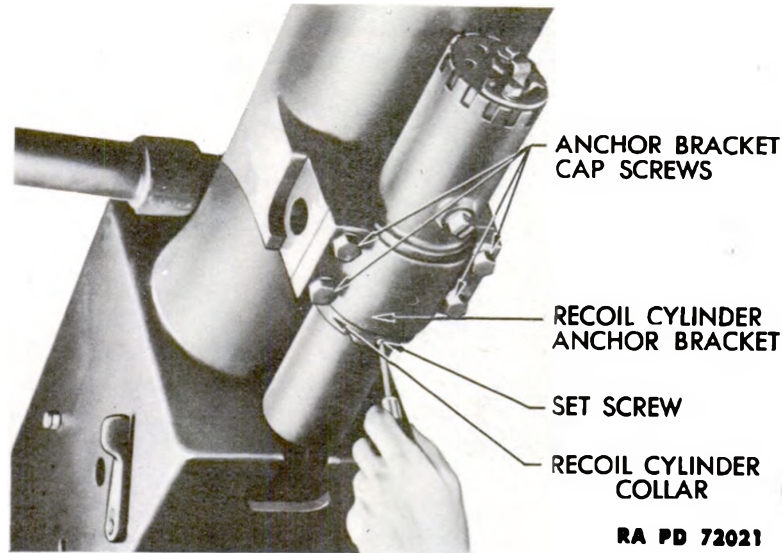

Figure 130 – Recoil Cylinder Collar – Loosening Set Screw
(1) Elevate the gun to approximately 45 degrees. Loosen the set screw in the recoil cylinder collar (fig. 130). Back the collar from the recoil cylinder anchor bracket. If the recoil cylinder wrench is available, it should be used to remove the collar; otherwise, the collar should be loosened by being rotated with a brass drift and hammer.
(2) Support the cylinder and remove the four anchor bracket cap